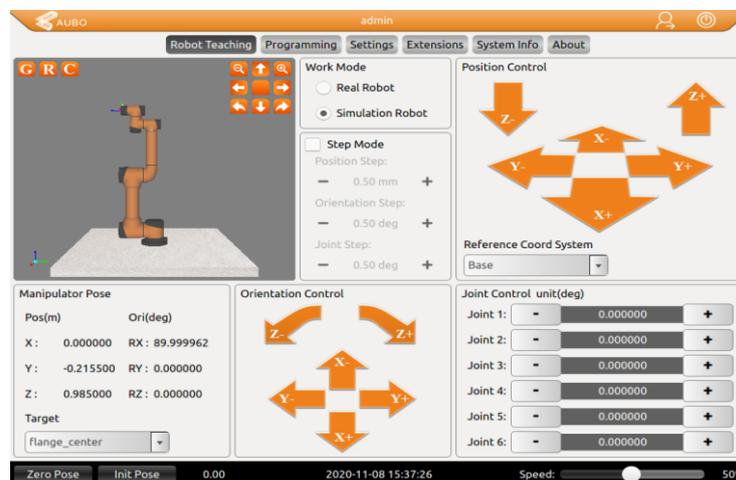

Figure 9-5 AUBOPE robot operating page (Simulation Mode)
- Then, AUBOPE software starts initialization, as well as the manipulator. The software run a system check for the manipulator. Once everything works fine, brakes will be released, and the manipulator will be powered up. At the meantime, AUBOPE will be started and enter the operating page (See figure 9-5).